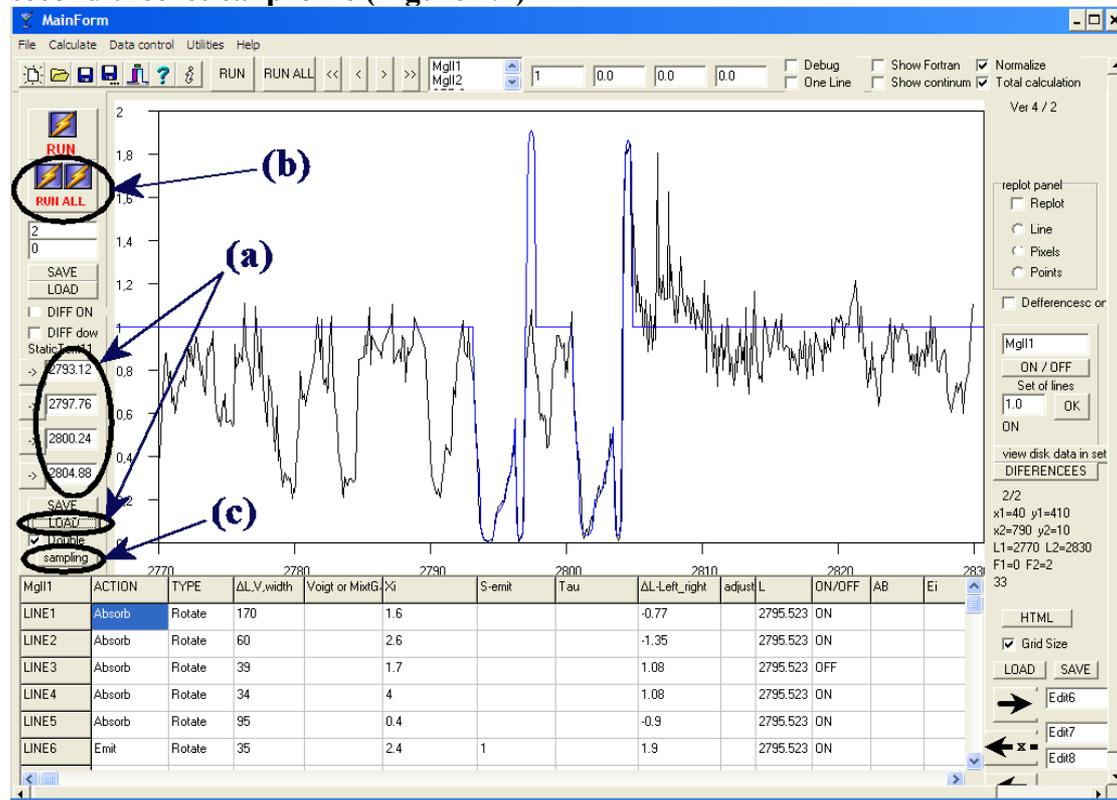

Figure 4.7
Step 6: Definition of spectral range for the second file and calculations for the second theoretical profile (Figure 4.7)